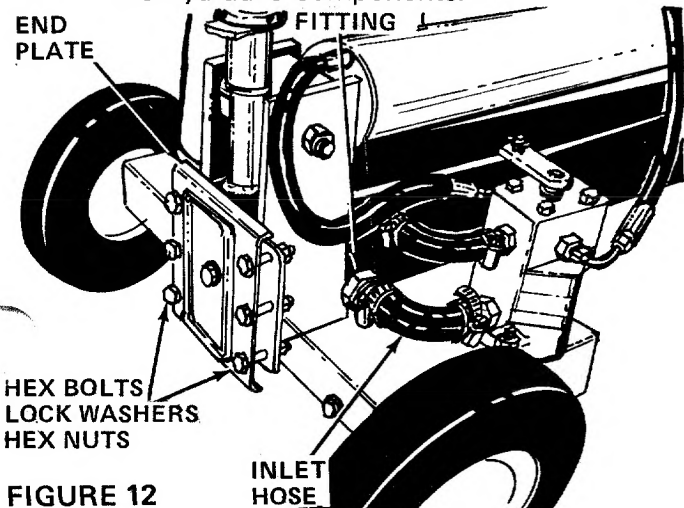

FIGURE 12
1. Remove the hose clamp at the inlet hose (bottom hose). See figure 12.